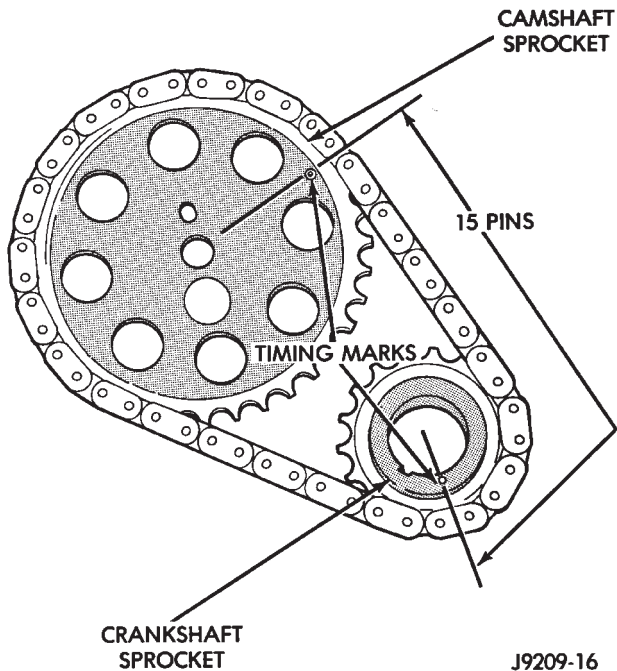

Fig. 44 Verify Crankshaft—Camshaft Installation—Typical
- (5) To verify correct installation of the timing chain, turn the crankshaft to position the camshaft sprocket timing mark as shown in (Fig. 44). Count